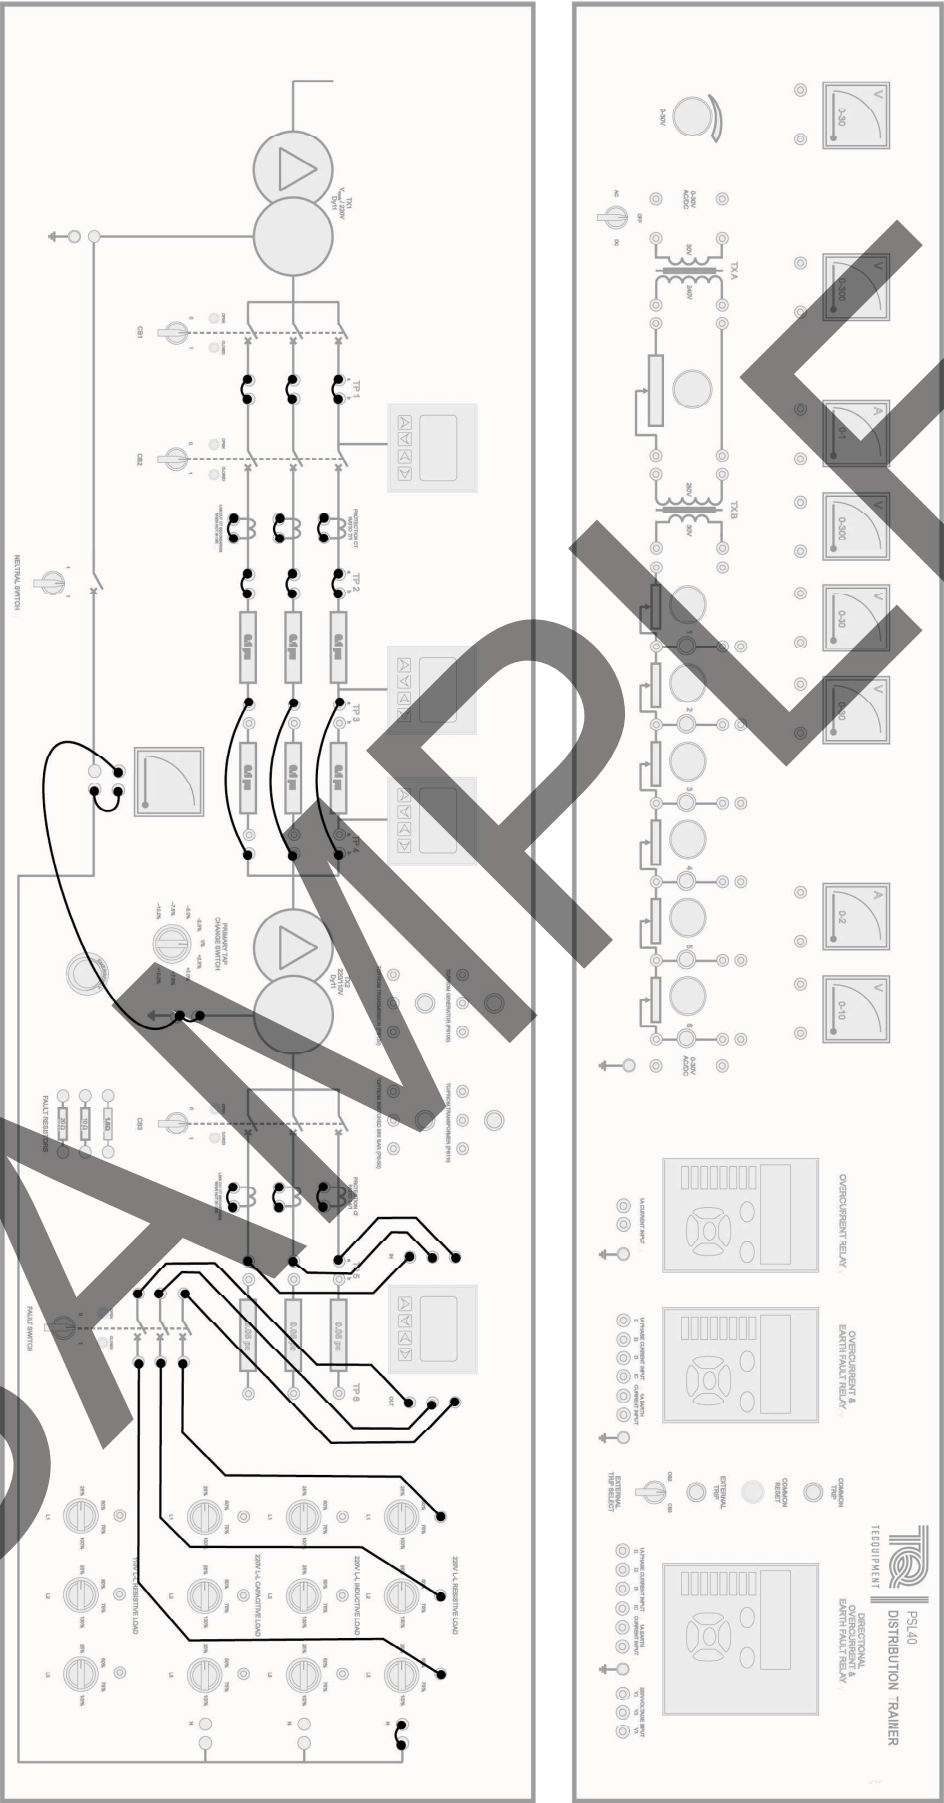

Figure 36 Connections for Experiment 14
- 1) Connect the secondary of transformer TX2 to the fault switch in series with the resistive load as shown in Figure 36.
- 8) Use the fault application switch to simulate a single-line- to- ground fault by disconnecting two phases (2 and 3) of the resistive load at the Fault Switch in Figure 36. Switch the power on and close the fault switch. Take readings for load voltages and currents. Switch the power off.